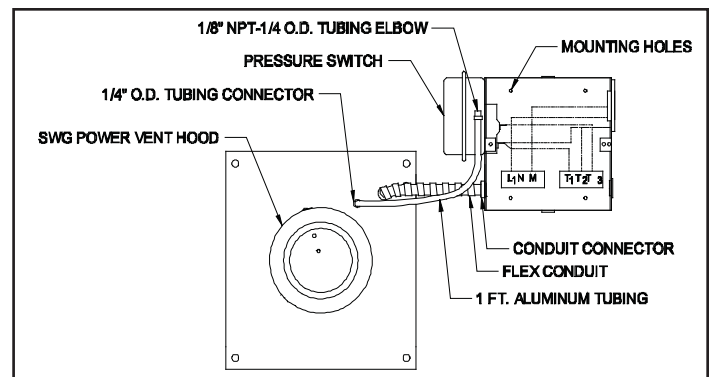

Figure 3
2. Fasten the flexible conduit from the SWG Venter into the conduit connector. Mount the CK-81 junction box or installer supplied junction box onto the wall or floor joist without straining the flexible conduit. Fasten the CK-81 junction box through the four dimpled locations on the base of the box. (See Figure 3)
1. Attach the 1/4" tubing connector to the pressure tube on the SWG Venter. (See Figure 3)